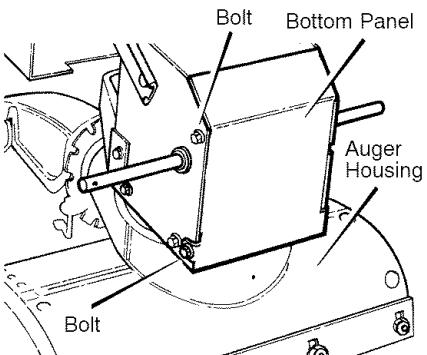

Figure 38
2. Stand the snow thrower up on the front end of the **auger housing** (see Figure 38).
4. Loosen the **bolts** on each side of the **bottom panel** (see Figure 38).
5. Install the **bottom panel** (see Figure 38).
2. Stand the snow thrower up on the front end of the **auger housing** (4). (see Figure 38).